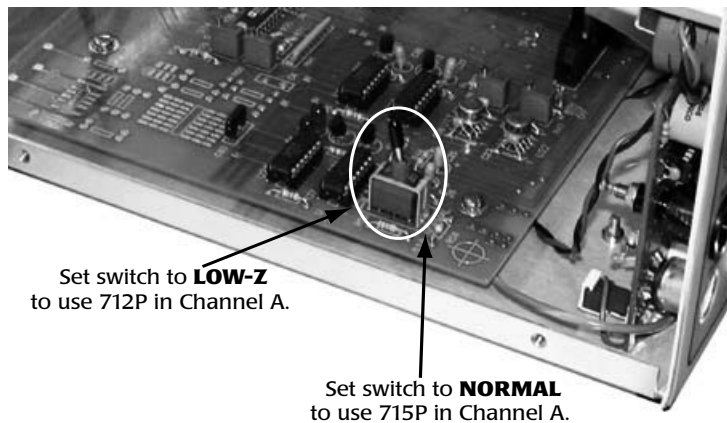

Fig. 11—LOW-Z switch set for use with a **712P** in Channel A.
4. When looking at the case from the front, the LOW-Z switch is located on the left side behind the Channel A sector. See Figure 11. Set the switch to the desired position: